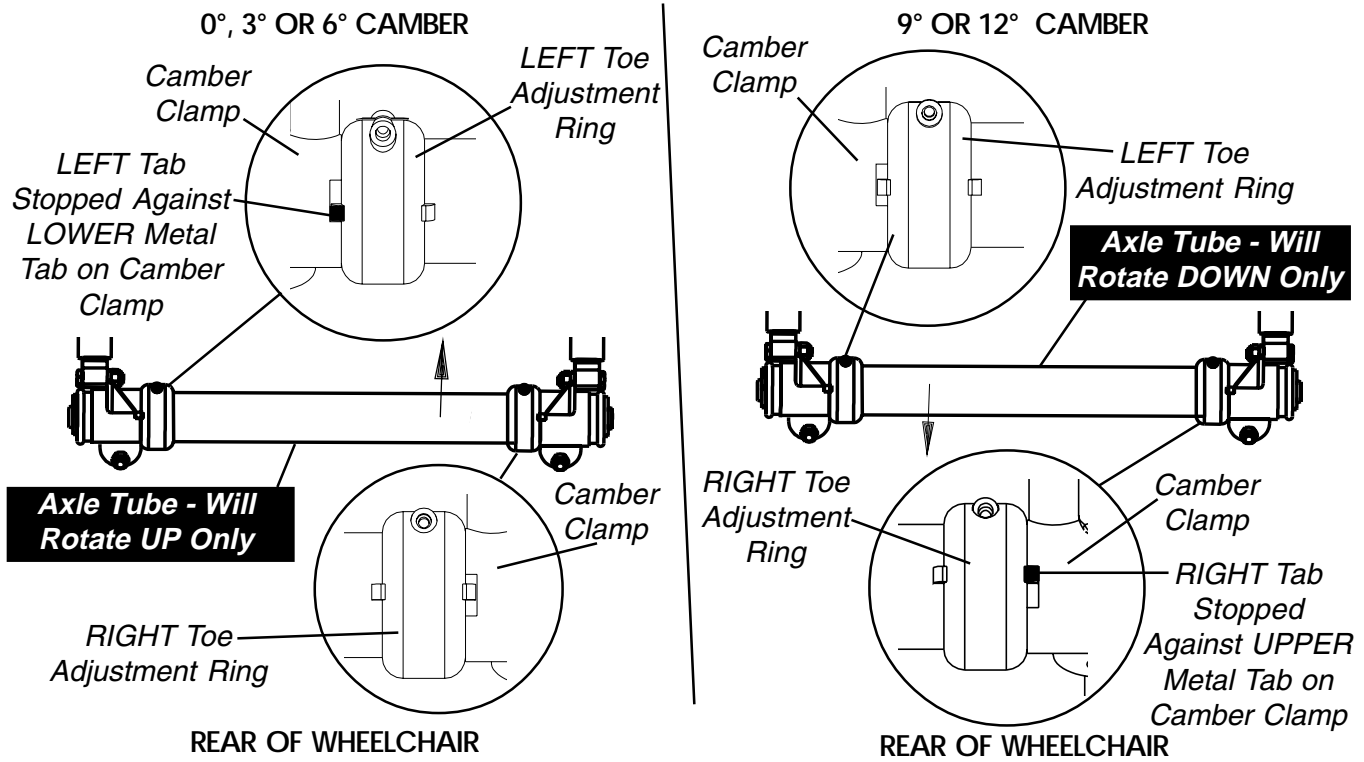

FIGURE 8 - ADJUSTING TOE IN/TOE OUT
Axle Tube Positioning For 0°/3°, 0°/6°, 3°/6° or 9°/12° Camber Inserts (FIGURE 8)
NOTE: Refer to FIGURE 8 for a description of a locked out axle tube.
Axle Tube Positioning For 0°/9°, 0°/12°, 3°/9°, 6°/9°, 3°/12° Or 6°/12° Camber Inserts (FIGURE 8)
2. Slowly rotate the axle tube until the tab on the LEFT toe adjustment ring is stopped against the LOWER metal tab on the camber clamp (FIGURE 8).
2. Slowly rotate the axle tube until the tab on the RIGHT toe adjustment ring is stopped against the UPPER metal tab on the camber clamp (FIGURE 8).